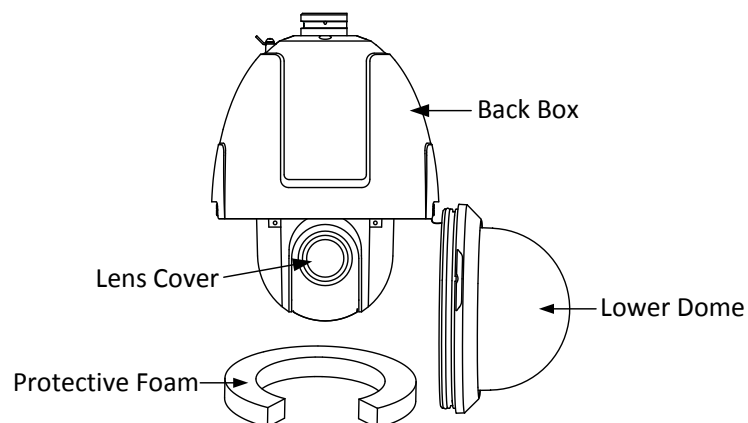

Figure 1-2 Remove the Lower Dome
1. Loosen the two lock screws on the both side of the speed dome. Pull the lower dome to separate it from the back box as shown in Figure 1-2.